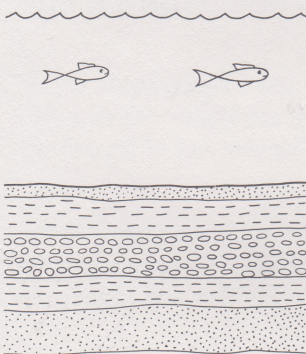

FIGURE 4 Layers of sediment, the raw material of a sedimentary rock.
- 1 **Sedimentary rocks**—these are laid down as sediment in layers (for example sand on a beach, or mud on a river-bed) at the surface of the Earth, as a continuous process (Figure 4).